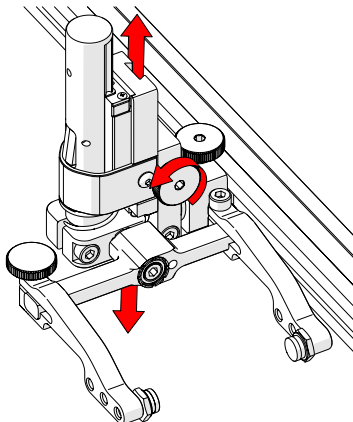

Fig. 104 - Vertical adjustment
2. The vertical adjustment knob allows the vertical probe holder height adjustment (*Fig. 104*).